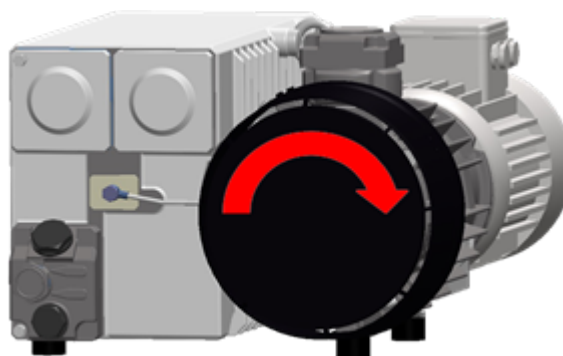

Figure 6: Direction of Rotation of the Vacuum Pump
4. Check the correct direction of rotation of the three-phase model pump. See *Figure 6: Direction of Rotation of the Vacuum Pump* on page 27.